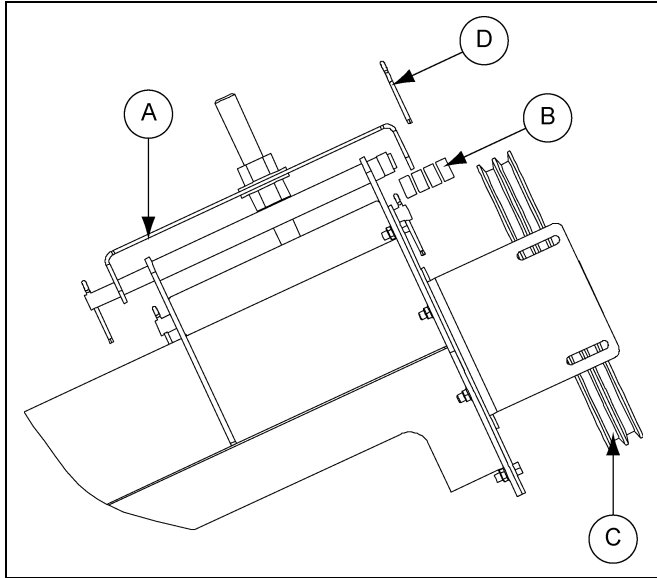

Figure 4I
1. Attach the motor to the motor mount plate (A) using appropriate bolts, lock washers and hex nuts. *(See Motor Bolt Chart below.)*
2. Install pulley (C) onto motor shaft making sure that it is aligned with the flight pulley (C). It may be necessary to move spacers (B) to gain shaft alignment. *(See Figure 4I.)*